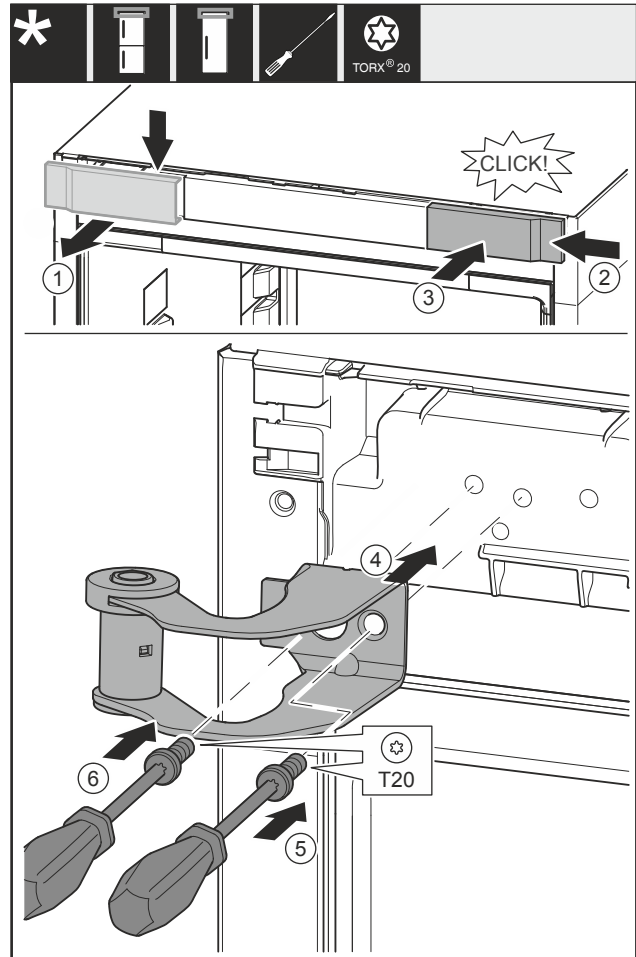

Fig. 23
- ▶ Remove the cover Fig. 23 (1) from above towards the front.
- ▶ Turn the cover Fig. 23 (2) by 180° and attach to the other side from the right.
- ▶ Engage the cover Fig. 23 (3).
- ▶ Place the top swap bearing block Fig. 23 (4).
- ▶ Screw the screw Fig. 23 (5) tight.
- ▶ Screw the screw Fig. 23 (6) tight.